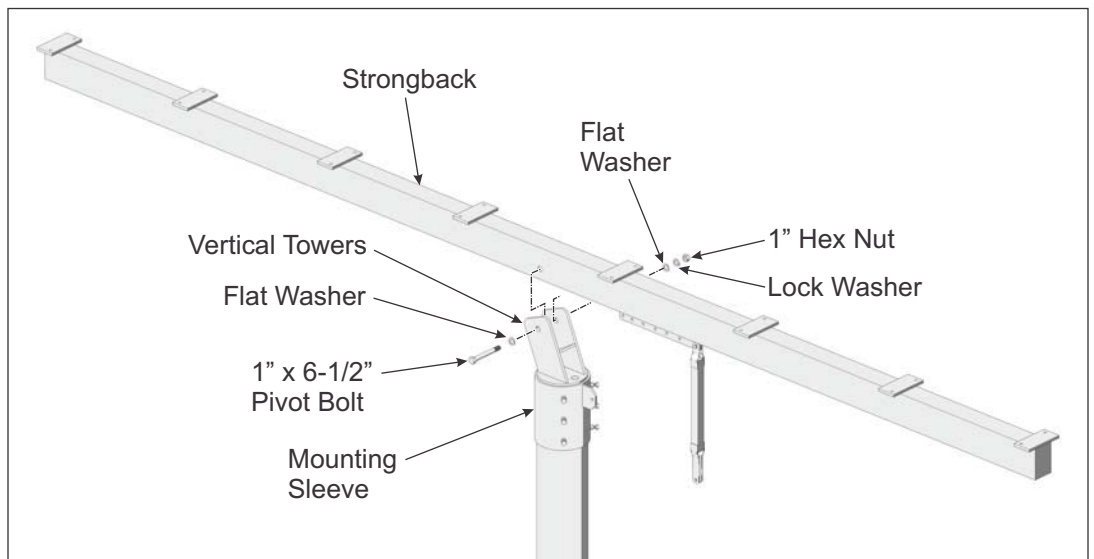

Figure 2-2: Installing the Strongback
- E. Insert the Pivot Bolt along with one flat washer through the one Vertical Tower and the Strongback exiting the second Vertical Tower on the opposite side. Secure with the remaining flat washer, lock washer and hex nut. For now finger tighten only to allow movement for the next step. (See Figure 2-2)